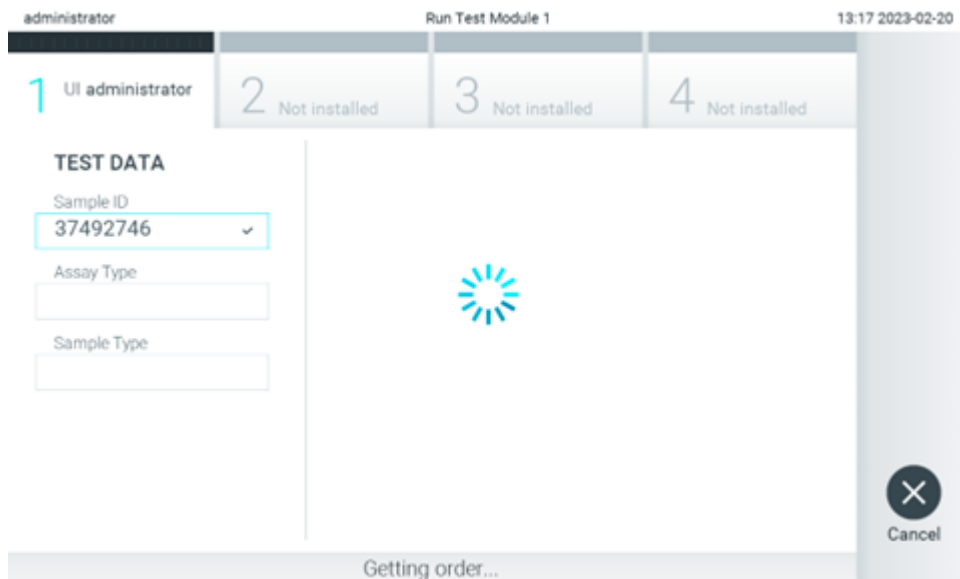

Figure 86. Display during test order retrieval.
3. The sample ID will be sent to the host and while the QIAstat-Dx Analyzer 2.0 waits for a test order, the message "Getting order..." is displayed (Figure 86).